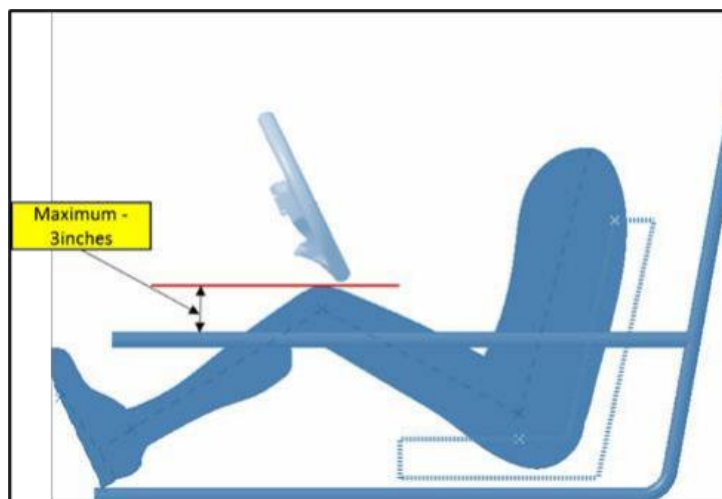
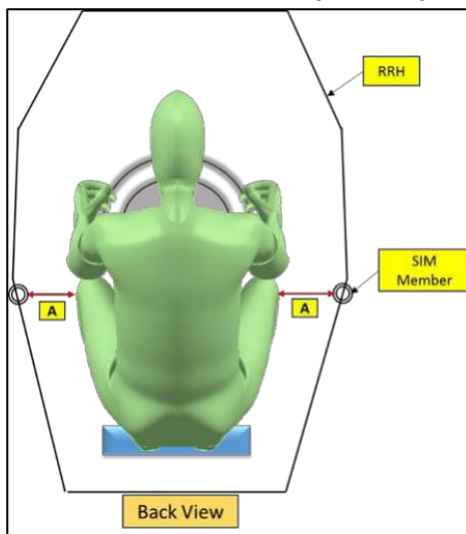

Figure B- 72: Driver Knee Safety Requirement
Figure B- 73: Driver Knee Safety Lateral Clearance
This requirement deals with the safety requirements to be followed to ensure the driver's knees are not coming out of the roll cage. The maximum height of the knees that can be allowed above the SIM member when viewed from the side is 76mm (3in) as shown in Figure B-72. The check will be done when the driver's foot is kept on the pedals, hands on the steering wheel, and with the comfortable pedal operating position.
In line with the above rule, teams are required to meet the lateral clearance requirement of the knees. This is also measured when the driver's feet are on the pedals and hands on the steering wheel. The dimension "A" mentioned in figure B-73 should be a minimum of 76mm (3 in.) w.r.t SIM member inner surface.
- Teams must ensure that their vehicle meets both the clearances mentioned under B.14.3(as per Figure B-72 and Figure B-73), both the limits should be met simultaneously. Teams that do not meet these criteria will be marked as 'not cleared at safety scrutiny'.